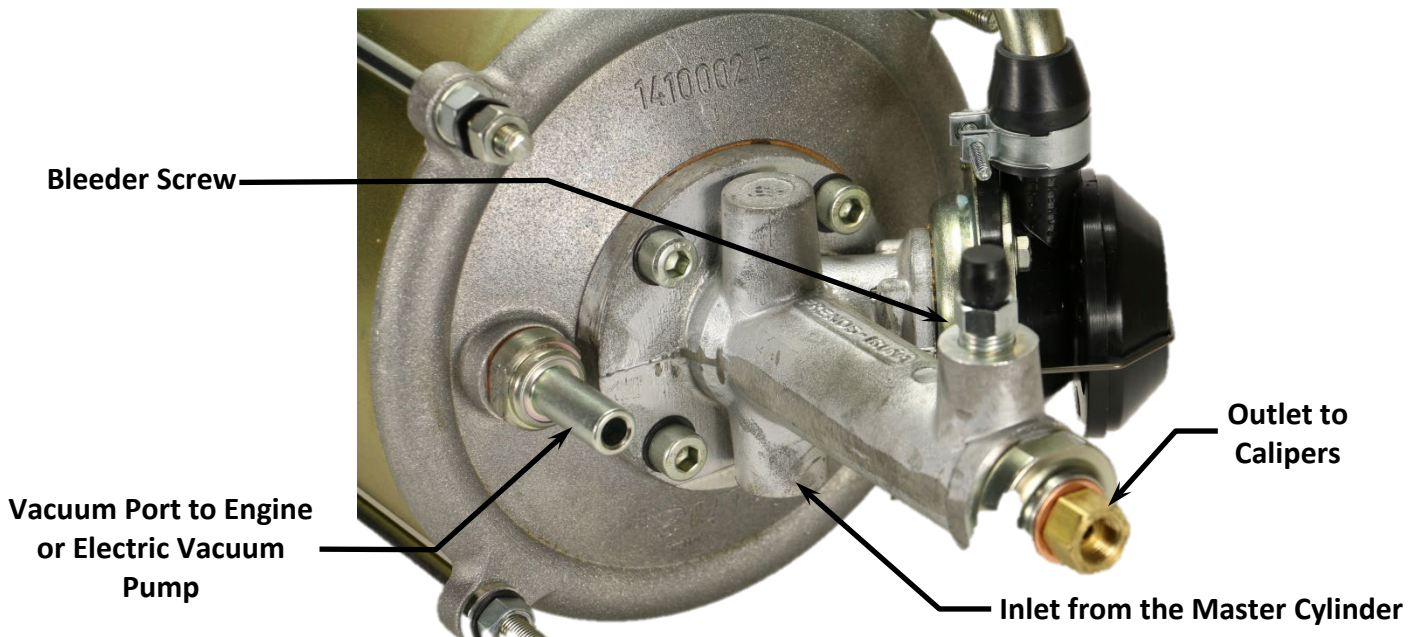

Figure 1 – Port Locations
- When plumbing the unit, the front brake port on the firewall mounted master cylinder will go from the master cylinder to the Inlet port on the booster. The Outlet will then route from the booster to the front brake calipers. See Figure 1 below for port locations. It does not matter which side is plumbed for the front or rear. For vacuum, connect both halves of the booster together with vacuum hose and a vacuum "T" and then connect to the engine or an electric vacuum pump.